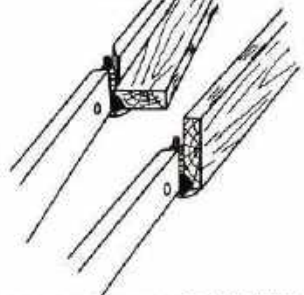

Fig.697. TWO POSSIBILITIES FOR MAKING A MOLDING
7. Make a trial run on a piece of scrap wood. Hold it firmly in position against the fence. Feed it into the cutter head from right to left. Fig.697. Occasionally the shaper cuts may be such that the motor should be reversed through the switch, the cutter head inverted (turned upside down) and the piece fed from left to right.